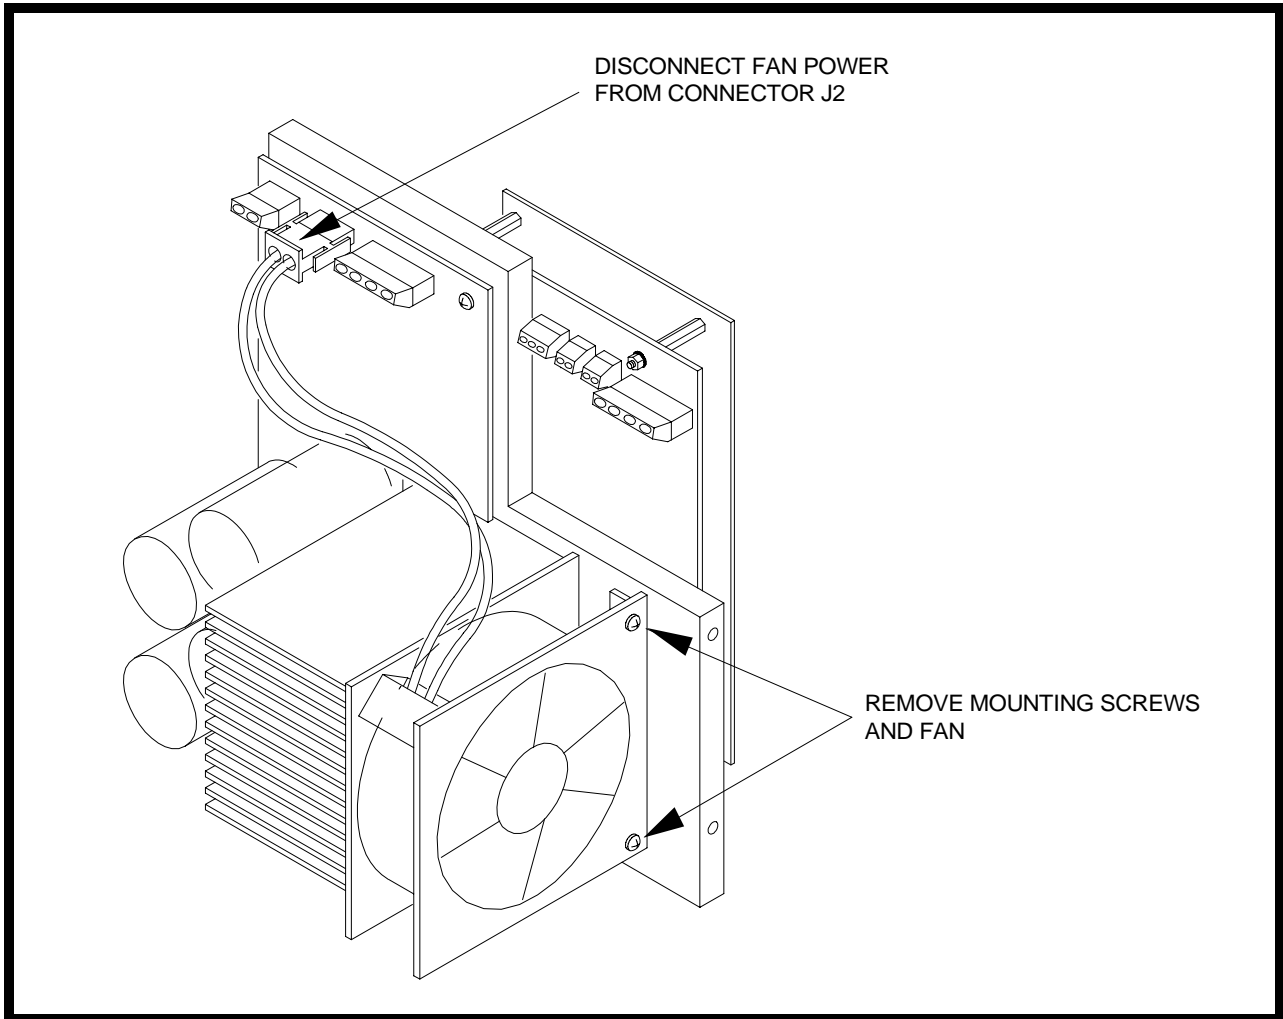

Figure 2 Removal of CPT Fan
- 7 Disconnect the fan power from connector (J2) on the inverter board. Refer to *figure 2*.
- 8 Remove the two mounting screws from the fan housing and retain. Remove the old fan. See *figure 2*.